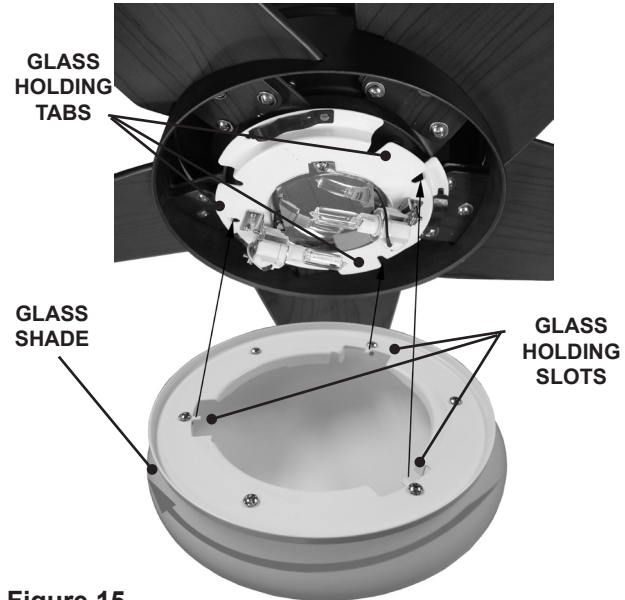

Figure 15
Step 5a. Align the glass shade up with the bottom of the fan as shown in Figure 15 and locate the three glass holding slots. Then locate the three glass holding tabs, located on the light fixture plate.